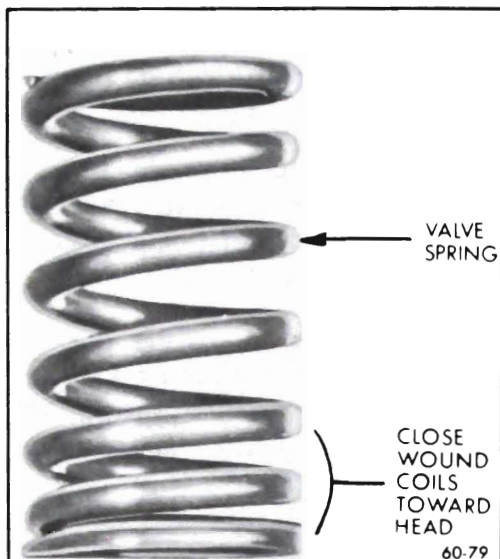

Figure 60-217 Valve Spring
14. Install valve spring on the 350 Cu. In. with closely wound coil toward the cylinder head. See Figure 60-217.